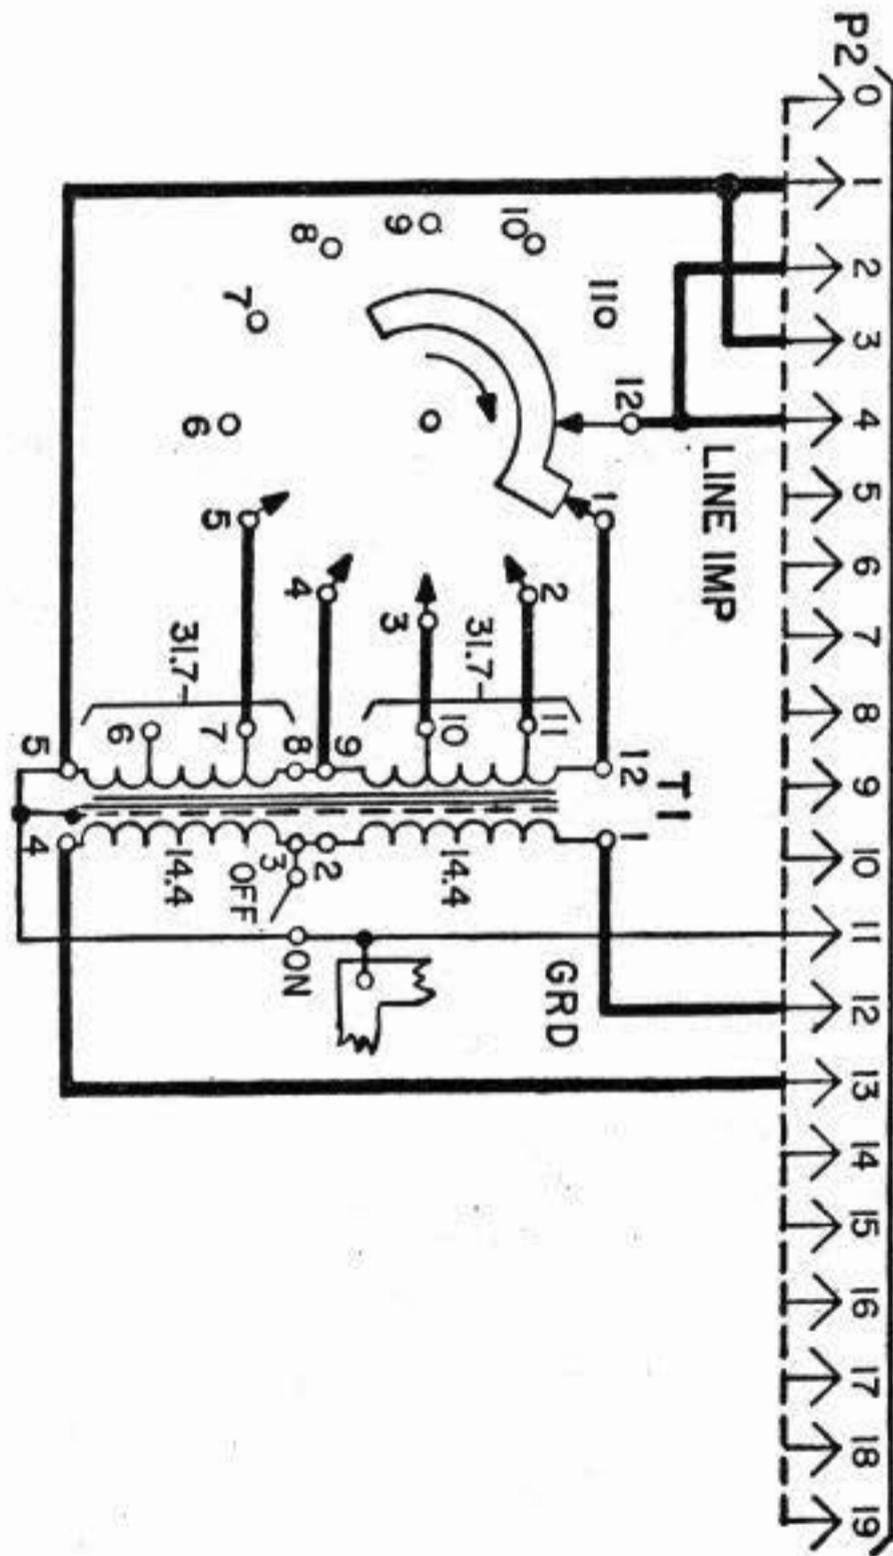

Fig. 3—Two-wire Transformer Unit without Hybrid Balance
2.06 Figs. 3, 4, and 5 show the 2-wire line, 4-wire line, and hybrid transformer circuits, respectively, for the 130B2 and 130C1 subscriber sets. Each of these sets is provided with a plug-in unit for ease in converting the subscriber sets from one type of operation to another. A ground switch is provided on each of these plug-in units which, on the 2- and 4-wire units, grounds the center tap of the line transformer. In the hybrid